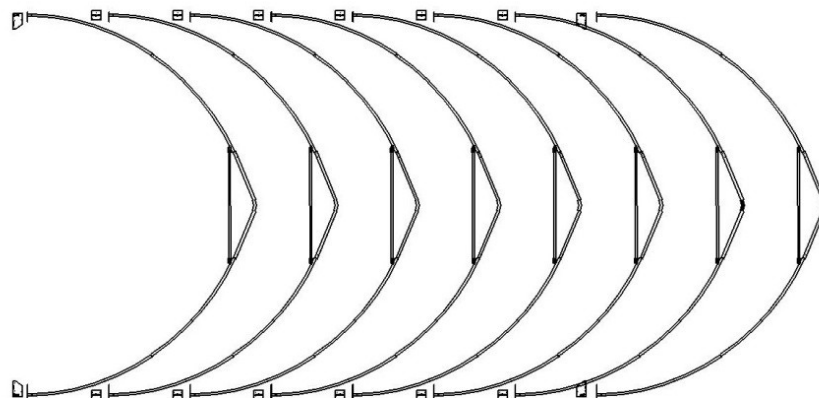

Figure 3
- Lay down all (8) trusses on the ground as Figure 3 when the assembly is all completed and before moving to next step.